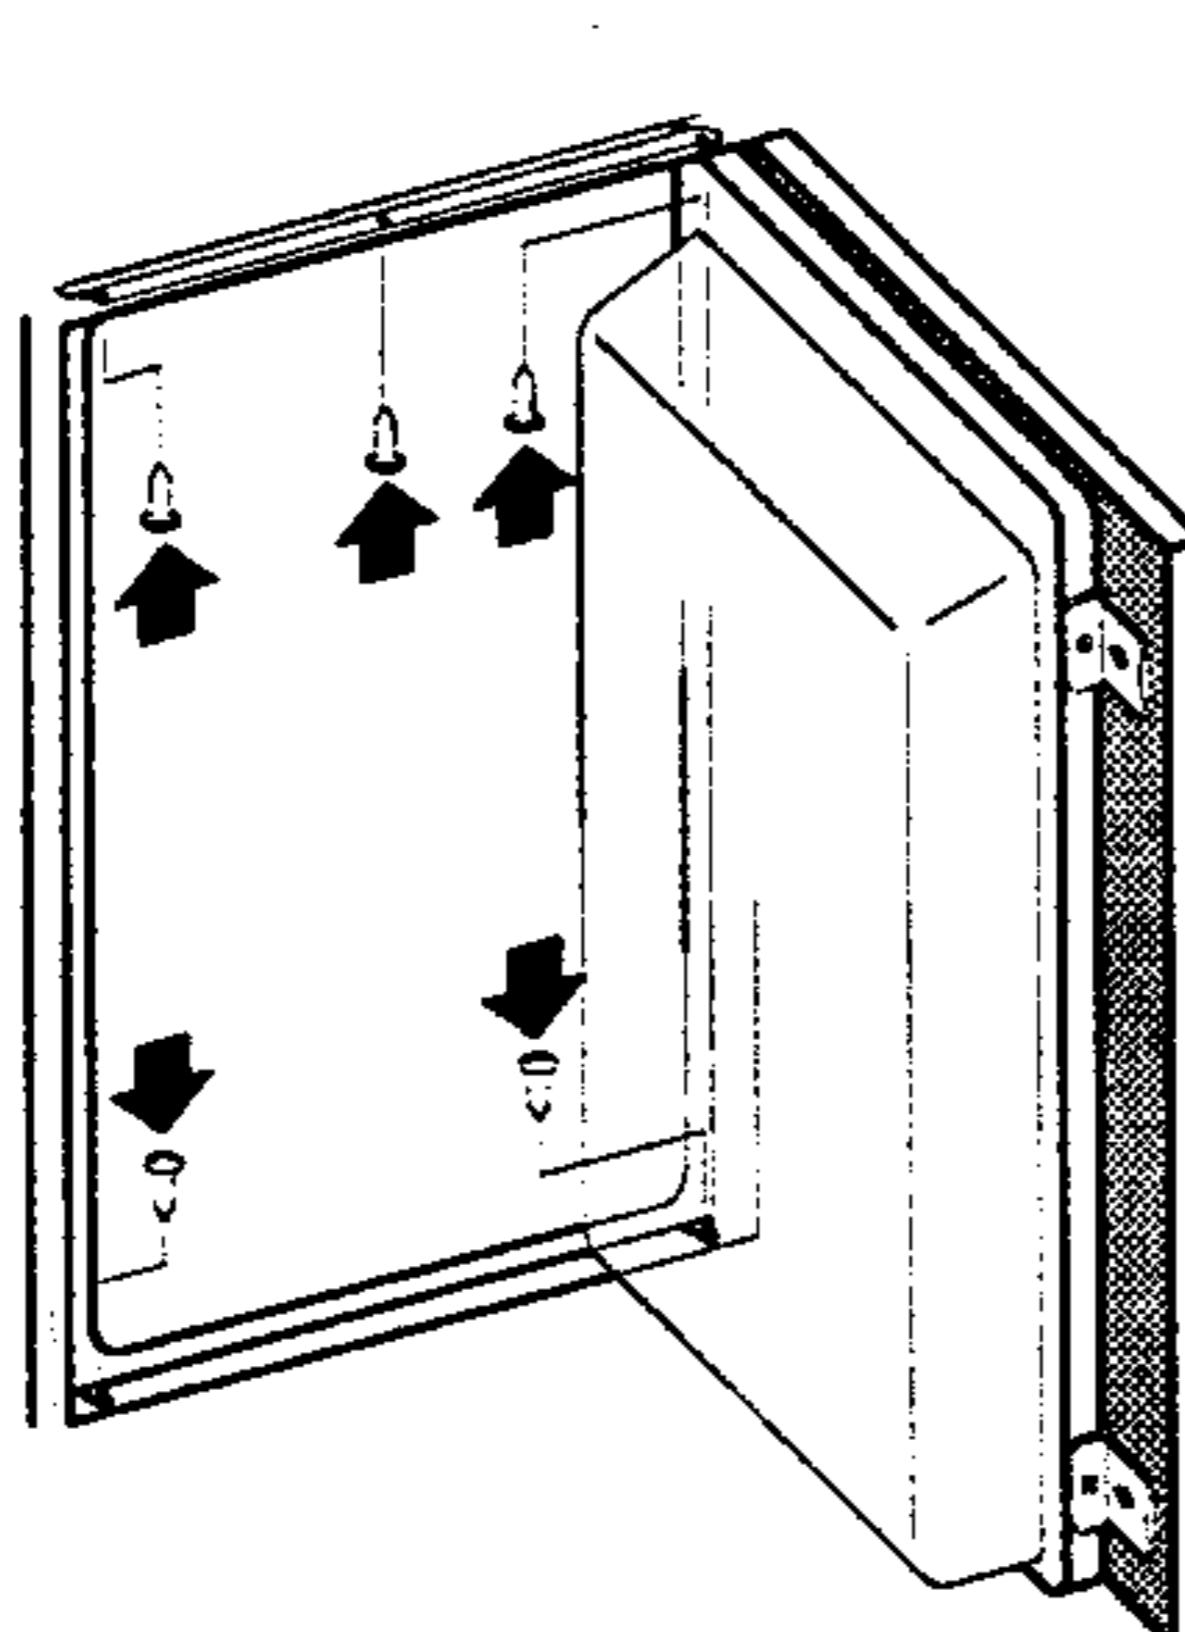

Fig. 5
- Fix the appliance into the kitchen unit. On the upper side, fix the three screws through the rail (A 4 x 12) and on the bottom side with two screws, through the lower hinges (A 4 x 16). Drill holes, ø 3 x 5 (Fig. 5).